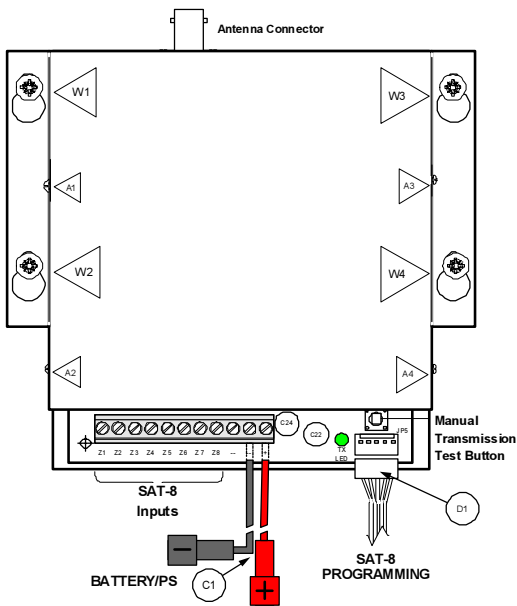

Figure 1 - SAT-8 Installation
- 1 Mount the SAT-8 to the wall using four screws as seen in Figure 1
- 1 Disconnect the power cords from the SAT-8 (see item C1 in Figure 1)
- 2 Locate screws A1 to A4 on the SAT-8 assembly (see Figure 1); remove the screws and remove the SAT-8 cover